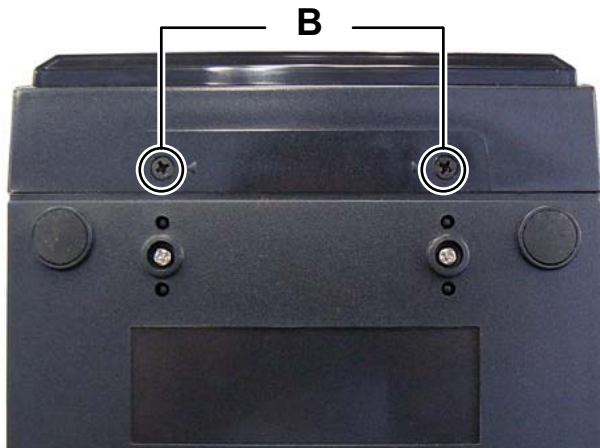

Fig.2
- (2) Remove the two screws **B** attaching the REAR COVER. (See Fig.2)